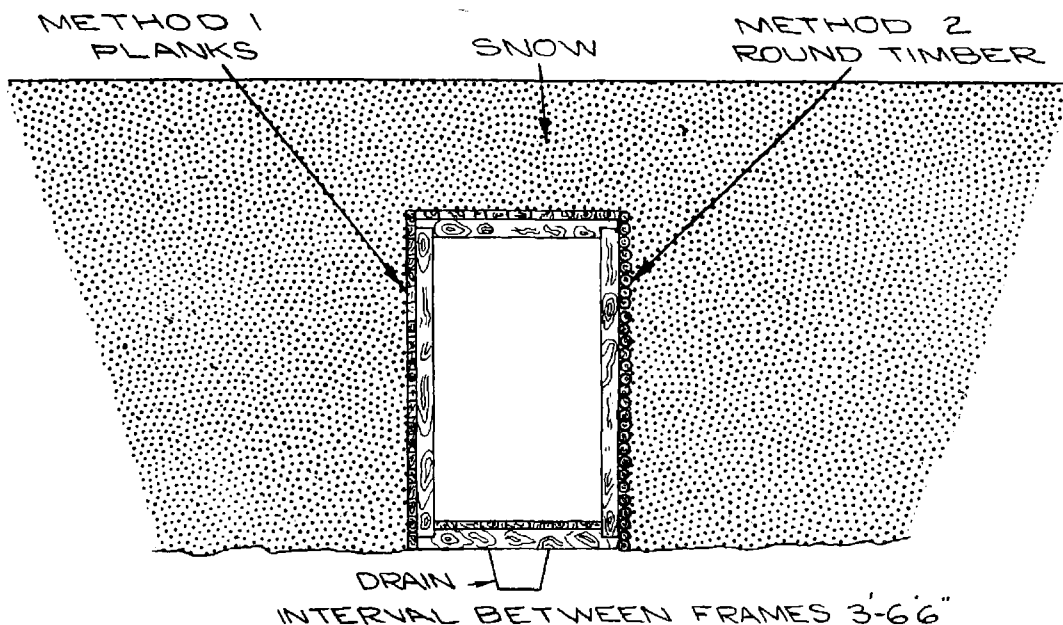

FIG. 3
(1) Digging in from the surface and covering over with planks and layers of snow;
(2) Digging in from the surface and the construction of sheeting or re-vetting with planks, beams, brushwood, or sheet-iron;
(3) Underground tunnelling, construction of wooden sheeting or revetting with planks, beams, or brushwood (figure 3);